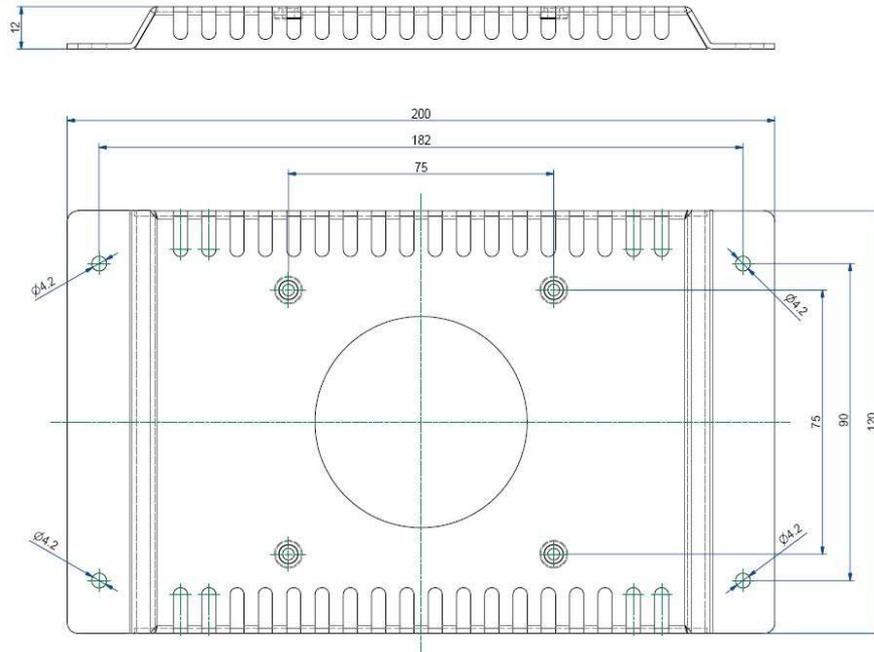

Fig. 30: Rear and bottom view of the mounting plate VESA® 75 compliant for M@II 70)
- M@CIIA 70 is VESA® 75 compliant (refer to Fig. 30).